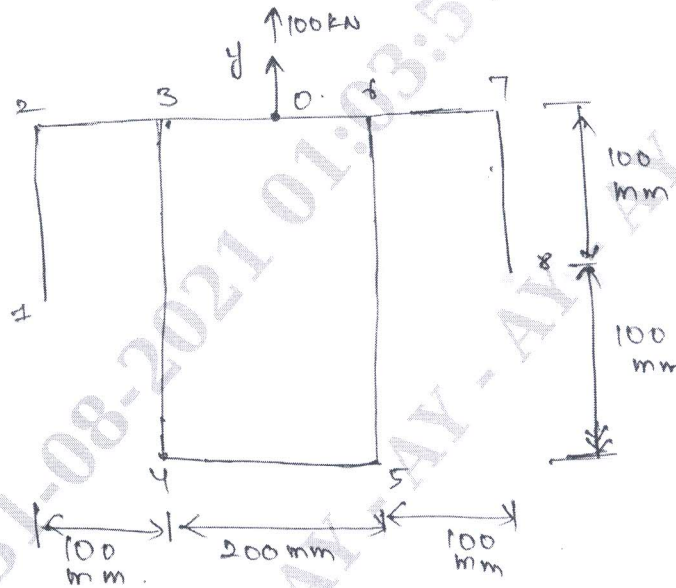

Fig. Q3
- 3 Determine the shear flow distribution in the beam section shown in Fig. Q3, when it is subjected to a shear load in its vertical plane of symmetry. The thickness of the walls of the section is 2 mm. (16 Marks)